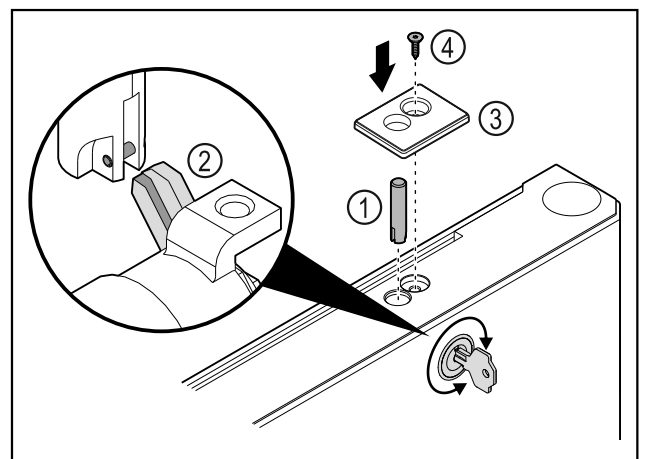

Fig. 46
- ▶ Put in the lock bolt Fig. 46 (1).
- ▶ Turn the lock slightly so that the lock bolt Fig. 46 (2) engages in the slot of the lock.
- ▶ Put in the cover Fig. 46 (3).
- ▶ Insert the screw Fig. 46 (4).